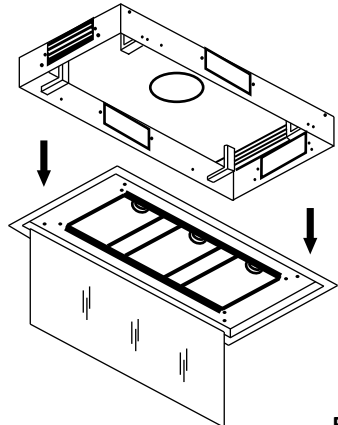

Fig 10
7. Remove the glass cover and grease filters from the body (Fig 10).